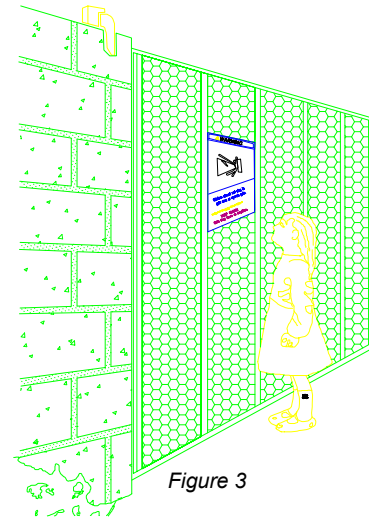

Figure 3
- For ORNAMENTAL “GRILL TYPE” GATES, injuries may occur when people put arms through the openings or children “ride” the gate by standing on the chain and holding on to the gate. THIS POTENTIAL HAZARD CAN BE MINIMIZED BY INSTALLING A MESH SCREEN ON THE GATE. See Figure 3.